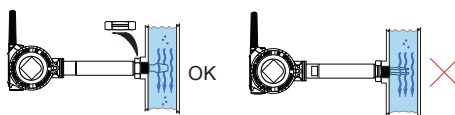

Figure 10.1.4: Illustration showing how to align the fork in a pipe application
- For pipe installation or installation where there is a flow of liquid around the forks, always ensure that the forks are positioned so that the liquid flows through the fork gap (see figure 10.1.4)